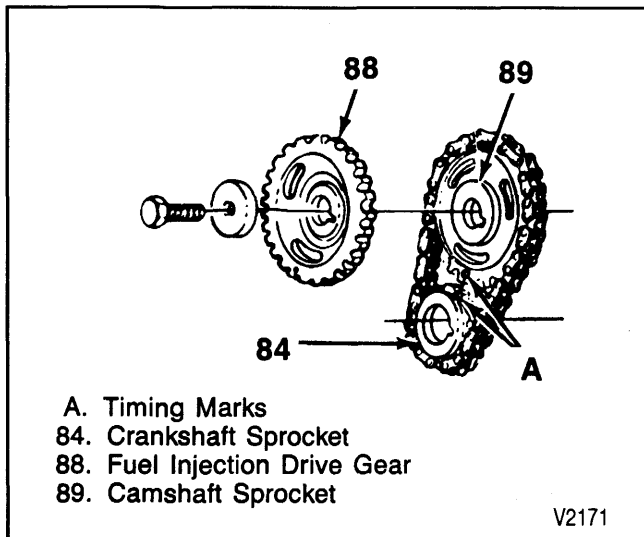

Figure 23—Timing Chain and Sprockets
Remove or Disconnect (Figure 23)
• Align the timing marks (figure 23).
Install or Connect (Figure 23)
- Align the timing marks (figure 23).
- ⇄ Install or Connect (Figures 23, 24, and 35 or 36)**